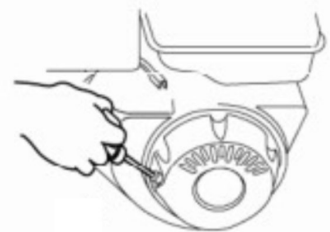

Fig. 5
3. Pull the starter rope (Fig. 5).